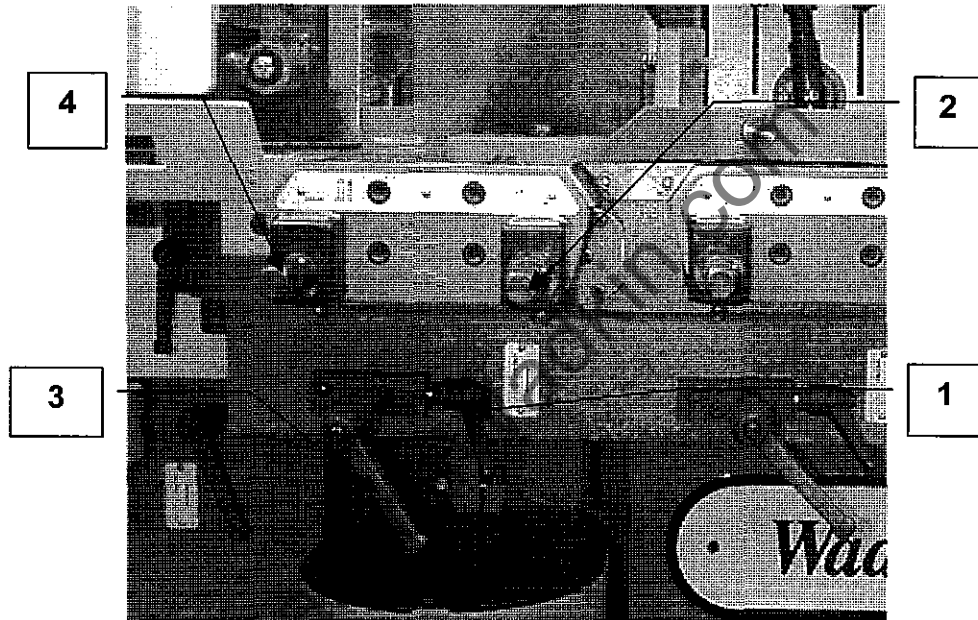

Figure 5.4
- 10 Lock handle (1) and clamp (3).
5.4 Setting Near Side Head (Figure 5.4)